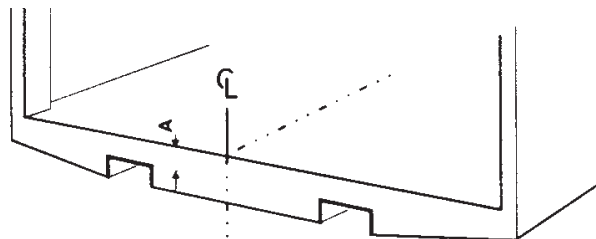

Figure 18. Measure and mark the midpoint of the rear beam of the vehicle
1. Measure and mark the midpoint of the vehicle's rear beam. See Figure 18.